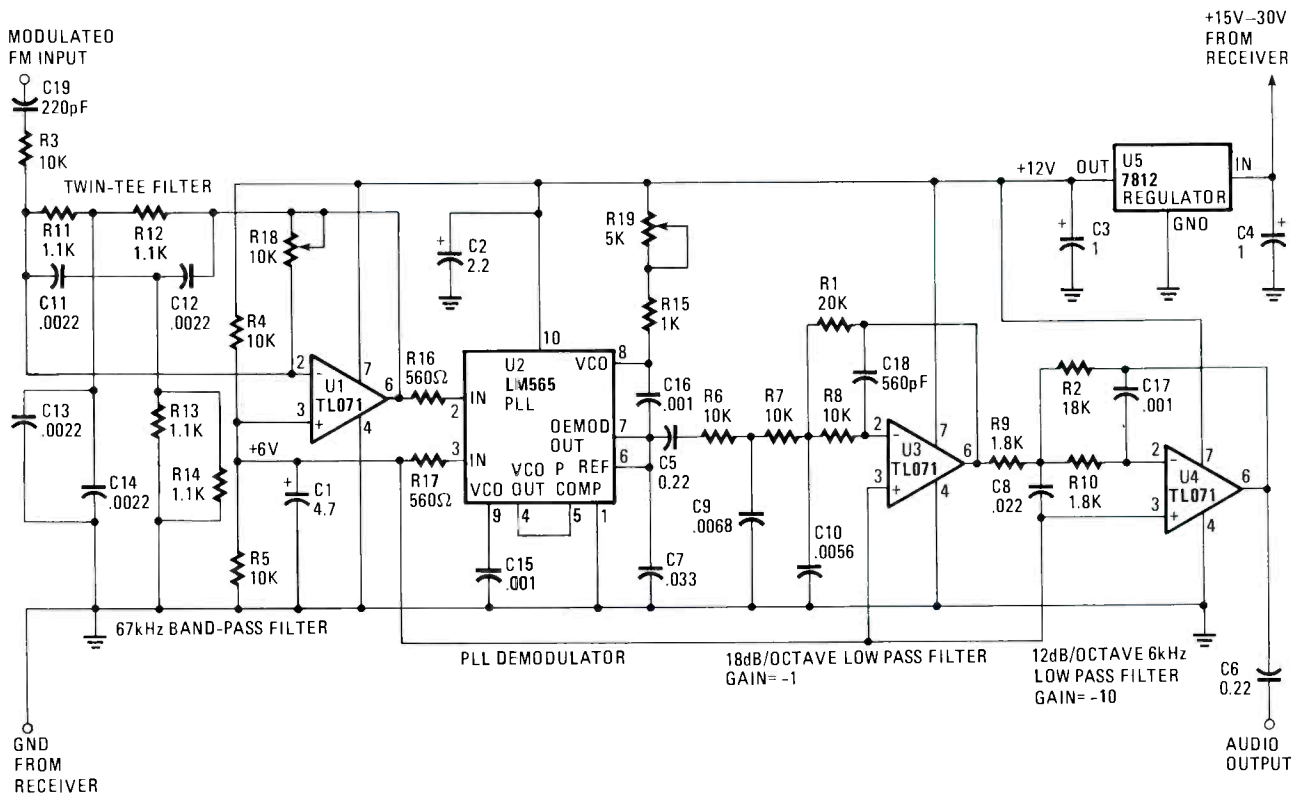

Fig. 2. The circuit for the SCA Adapter is basically a PLL with input and output filter stages.
Next assemble the motor controller circuitry on a piece of perfboard, using Fig. 2 as a guide. Note that T2, R2, J4, and J5 aren't mounted to the perfboard, but instead are mounted to the rotary-gap enclosure. Once the controller board is assembled check your work for wiring errors. If all checks out, solder wires to the appropriate points on the board for connection to the off-board components. Set the board to the side for now; it will be installed in a moment.
Figure 2 shows the complete circuit. Op-amp U1 and its associated components comprise the 67-kHz bandpass filter. A twin-T network, comprised of four 1100-ohm resistors and four 0.0022- $\mu$ F capacitors, is connected in the feedback network of the op-amp.
**The RF Receiver.** Figure 2 shows the schematic diagram of the RF receiver. Transistor Q1 and its components comprise a super-regenerative receiver. Resistors R1–R4 bias Q1 for a quiescent emitter current of about 1 mA.